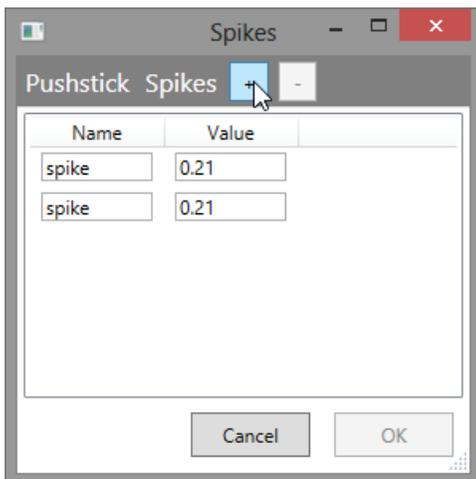

Figure 51
2. The **Spikes** window will appear. Add two spikes to the *Pushstick* by clicking the “+” button twice (Figure 51).